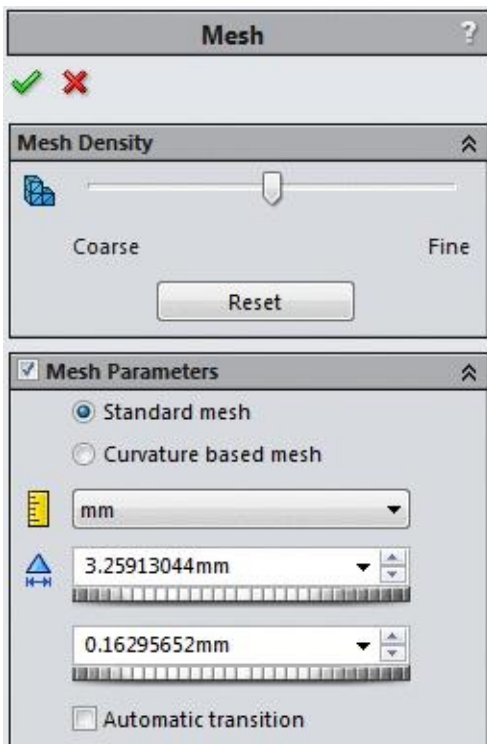

Figure-13. Mesh Parameters
- Click on the **Mesh Parameters** check box. The rollout will expand and the options related to element size and tolerance will be displayed; refer to Figure-13.